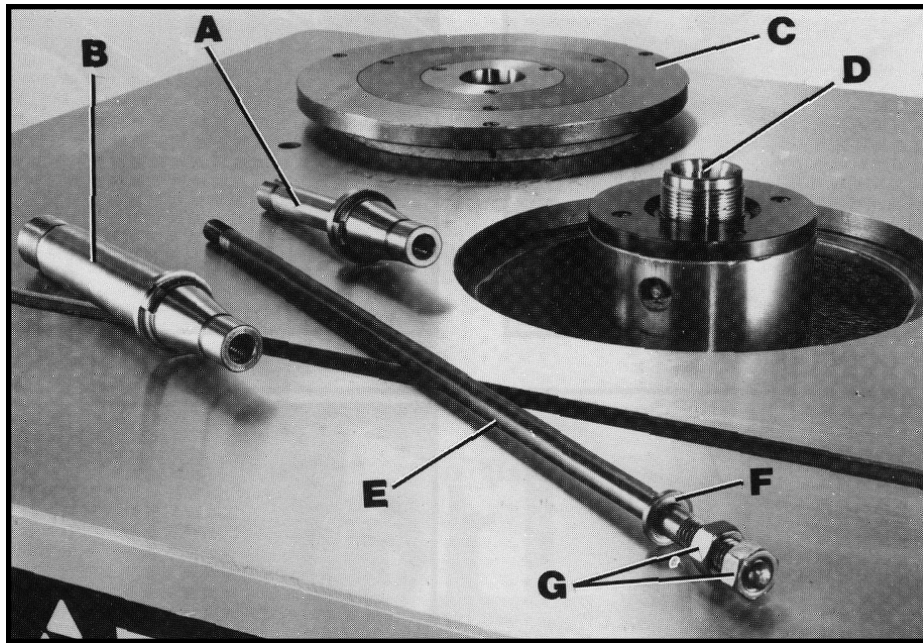

Fig. 30
Your shaper is supplied with a 3/4" diameter spindle (A) Fig. 30, and a 1-1/4" diameter spindle (B). To install the spindle to your shaper, proceed as follows:
1. Remove the table inserts (C) Fig. 30.
3. The taper of the 3/4" or 1-1/4" diameter spindles (A) and (B) Fig. 30, and the internal taper of the lower spindle (D) must be cleaned thoroughly using a cloth moistened with kerosene or mineral spirits. DO NOT USE GASOLINE OR LACQUER THINNER FOR THIS PURPOSE.
4. Thread the short threaded end of the draw bar (E) Fig. 30, into the threaded hole in the bottom of the 3/4" or 1-1/4" diameter spindles (A) and (B) and remove the two lock nuts (G) and special bevel washer (F) from the other end of the draw bar (E).